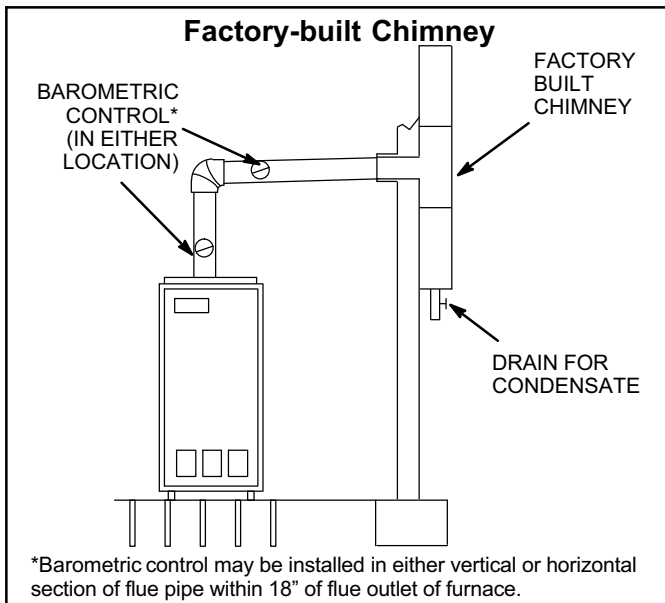

Figure 8
15. All vent pipe run through unconditioned areas or outside shall be constructed of factory built chimney sections. See figure 8.